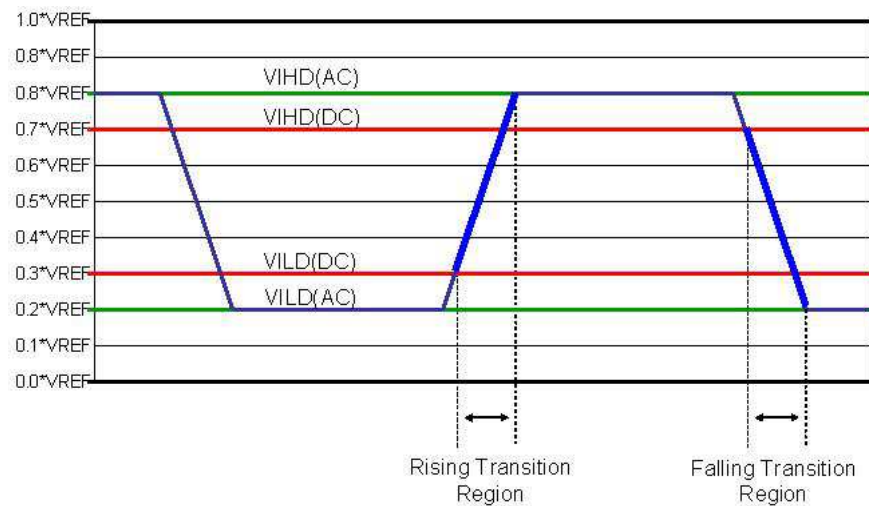

Figure 3. Low Speed (LS) I/O Input Thresholds
- (1) VILD(AC) min applies to undershoot.
- (2) VIHD(AC) max applies to overshoot.
- (3) Signal group 1 output slew rate for rising edge is measured between VILD(DC) to VIHD(AC).
- (4) Signal group 1 output slew rate for falling edge is measured between VIHD(DC) to VILD(AC).
- (5) Signal group 1: See Figure 3.
- (6) Signal groups 2 and 3 output slew rate for rising edge is measured between VILD(AC) to VIHD(AC).